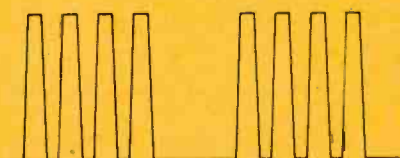

Fig. 3. Ideally, this is what the IR output from a remote would look like if it was trying to transmit two pulses.
**Module Operation.** When infrared light is received by MOD1, it processes the light to determine if it contains valid control signals. The best way to understand how the IR-detector module works is to take a simple pulse train and follow it through the stages of the module. Let's start with a simple two-pulse remote transmission, like that shown in Fig. 3. Note that it appears as two bursts of infrared turned on and off at 40 kHz.